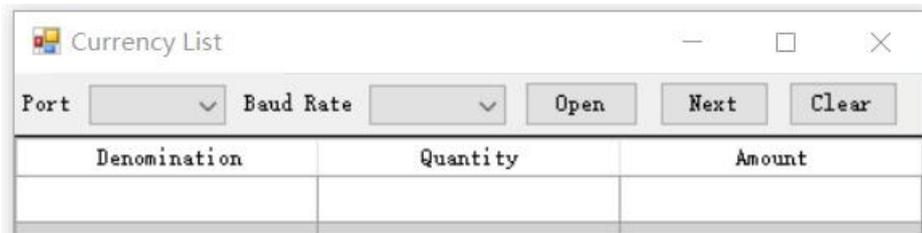

Figure 74
1) Open the application named "UpperMonitor.exe" in the "Release" folder installed on the PC side to enter the main interface of the software, as shown in Figure 74 below: